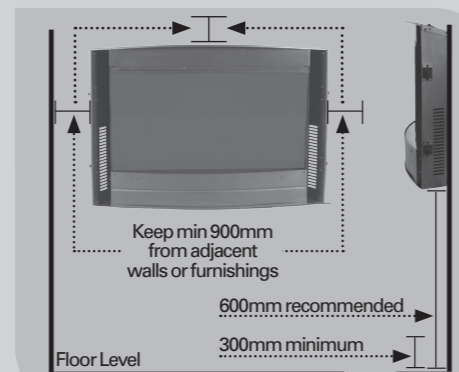

Fig.1
- The minimum distances must be observed (Fig.1).